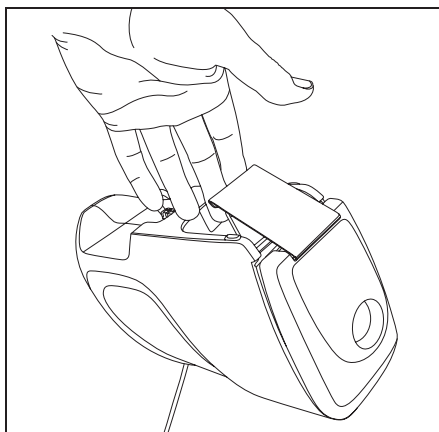

Fig. 13
- Turn the vacuum over. Lift up the cover retaining clip to remove the cover (Fig. 13).